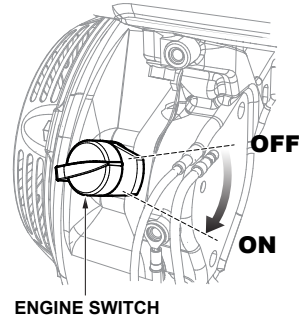

Figure 20. Engine ON/OFF Switch (ON)
4. Place the engine **ON/OFF** switch (Figure 20) in the **"ON"** position.